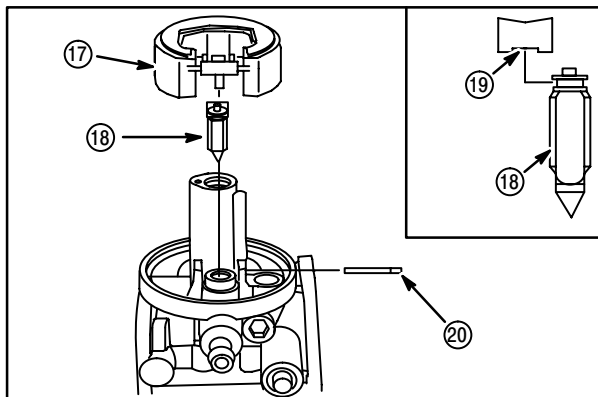

**Fig. 53**
7. Install new choke shaft seal (16) with sealing lip out, **Fig. 53**.
8. Assemble washer (15) onto choke shaft.
9. Insert spring (12) and check ball (13) in to spring pocket. Compress with a small round punch (14).
10. Push choke shaft into hole until ball engages groove in choke shaft, **inset, Fig. 53**.
11. Install choke plate (11) as shown.